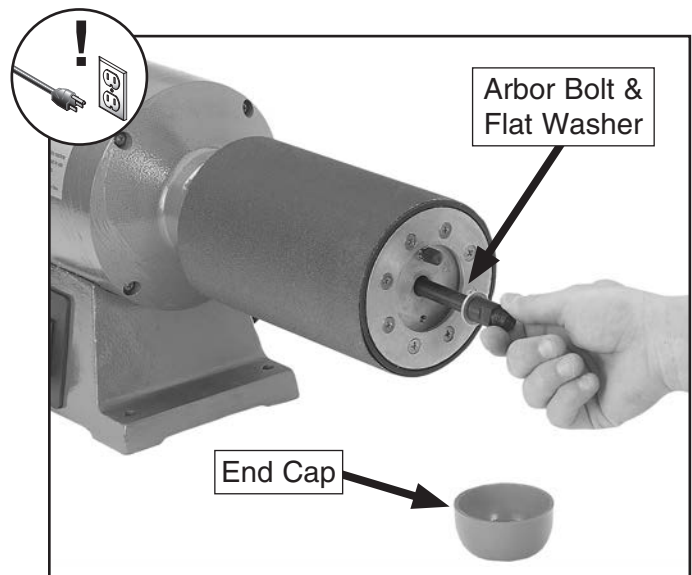

Figure 13. Installing the sanding drum.
4. Slide the drum onto the spindle with the air valve facing out, then secure it by threading the arbor bolt with a flat washer through the drum and into the spindle, as shown in **Figure 13**. Make sure to fully tighten the bolt.